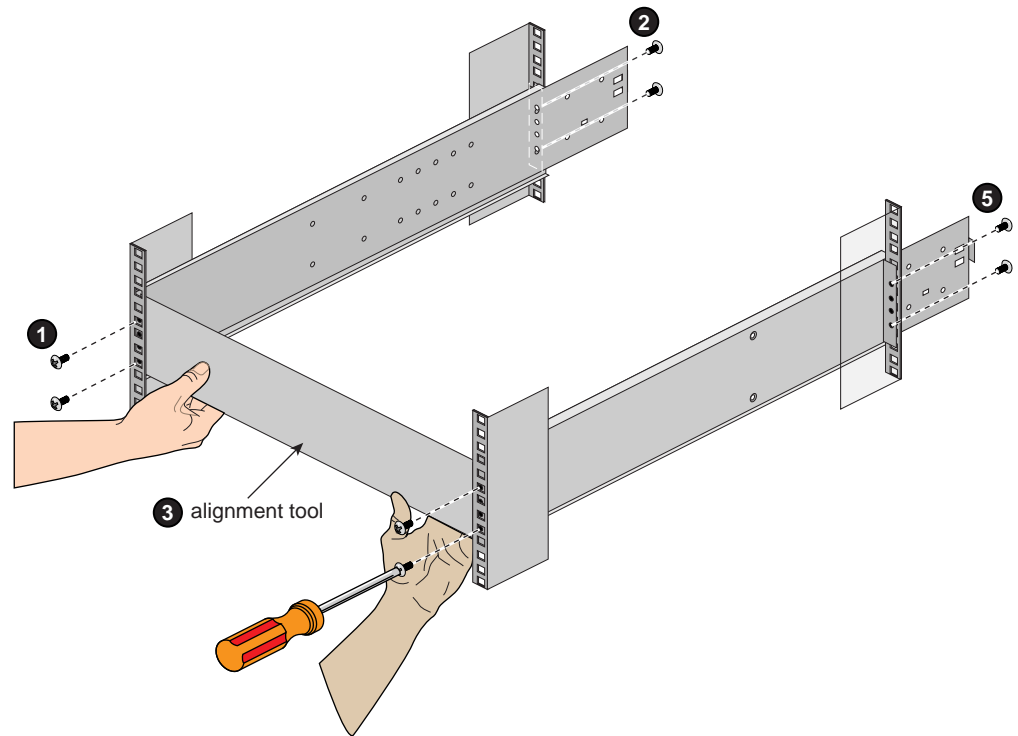

Figure 7-4 Adjustment Using Alignment Tool
3. Adjust the right rail until it is flush with the alignment tool and the left rail. Insure that the tool can be slid smoothly from the front to rear of the rack. This step is also best accomplished with two people, as shown in Figure 7-4 on page 83.